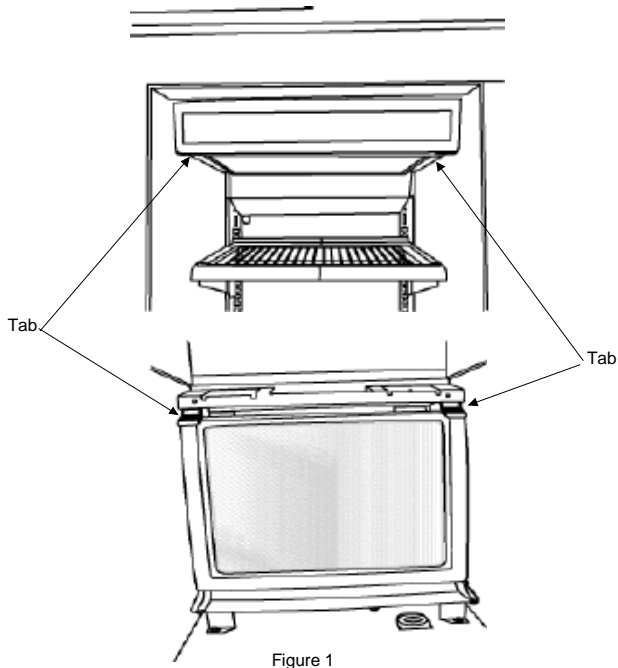

Figure 1
6. Open the freezer door and push back on the light shield retaining tabs then lower the shield. (See figure 1)